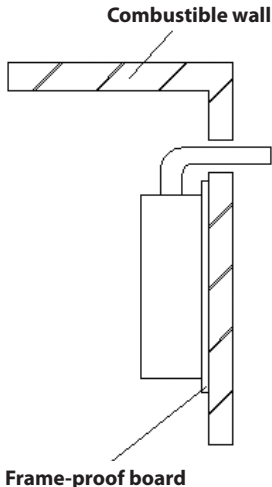

Figure 5.5
- When the installation area contains combustible material then a non combustible heat resistant mounting plate that exceeds the size of the water heater frame by at least 10 mm in all directions should be used (Figure 5.5).